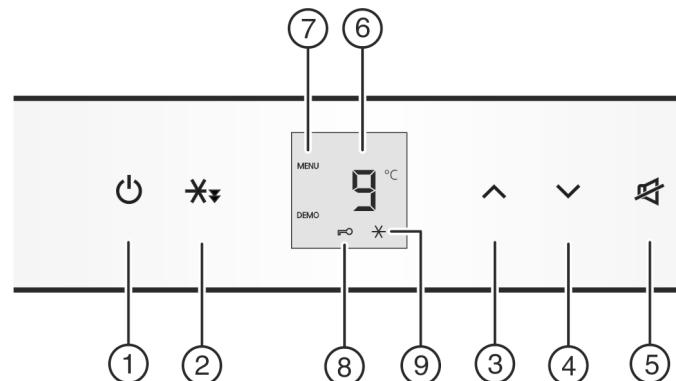

Fig. 2
- Press On/Off button Fig. 2 (1).
- To activate setting mode: Press and hold the SuperCool button *Fig. 2 (2)* for approx. 5 s.
- To switch on the child-proof lock, press the SuperCool button *Fig. 2 (2)* briefly.
- The child lock symbol *Fig. 2 (8)* shines. **c** flashes in the display.
- To switch off the child-proof lock, press the SuperCool button *Fig. 2 (2)* briefly.
- The child lock symbol *Fig. 2 (8)* goes out. **c** flashes in the display.
- To deactivate the set-up mode: press On/Off button *Fig. 2 (1)*.
- Press alarm button *Fig. 2 (5)*.
- For a higher temperature setting: press Up button *Fig. 2 (3)*.
- For a lower temperature setting: press Down button *Fig. 2 (4)*.
- Briefly press the Quick Cool button *Fig. 2 (2)*.
- The Quick Cool *Fig. 2 (9)* symbol lights up on the display.
- The Quick Cool *Fig. 2 (9)* symbol dims on the display.